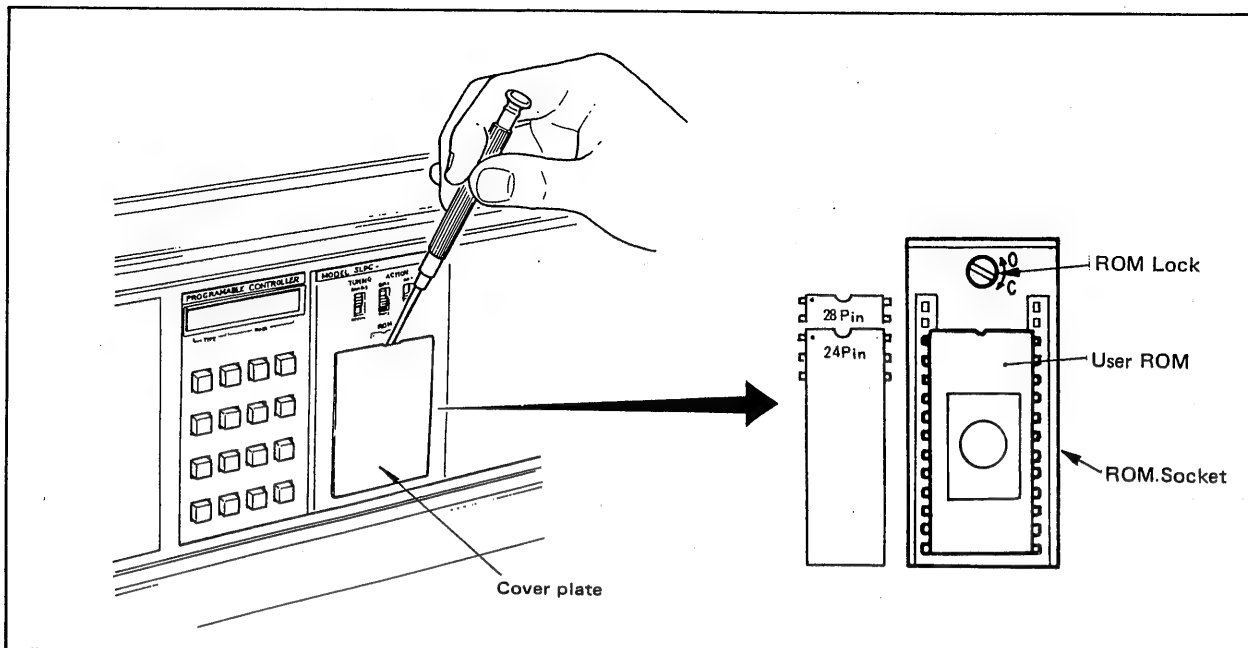

Figure 6-3-7. Removing Tuning Panel Cover Plate and ROM.
(1) Removing User ROM
- Remove the tuning panel cover plate; User ROM will be exposed. (See Figure 6-3-7.)